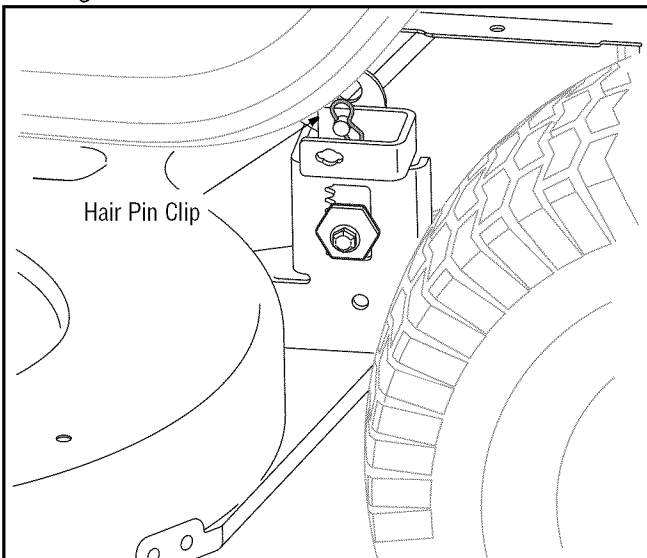

Figure 22
- Looking at the cutting deck from the left side of the tractor, locate the hair pin clip that secures the deck support rod on the rear left side of the deck. See Figure 22.